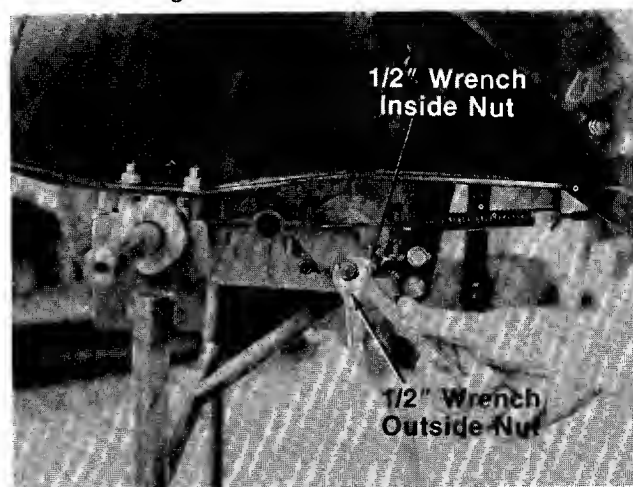

FIGURE 24.
- Tighten the outside nut against the inside nut, using two 1/2" wrenches. See figure 24.